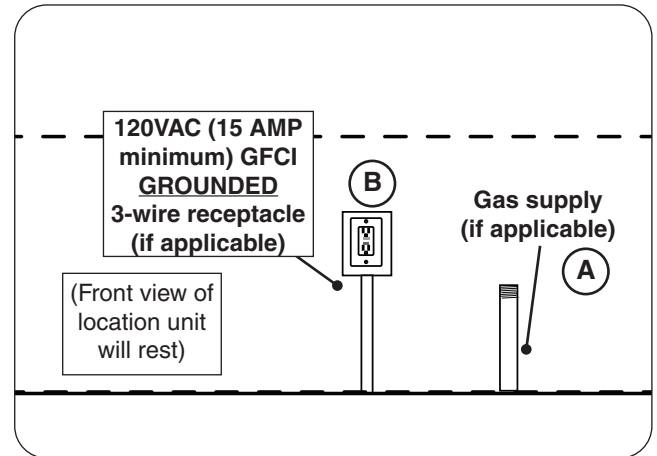

Fig. 22-1 Route gas and electrical (as applicable)
1. Ensure the gas supply is properly routed into the area that the unit will rest over (see Fig. 22-1, A).
1. Wire the receptacle into the area that the unit will rest over (see Fig 22-1, B).